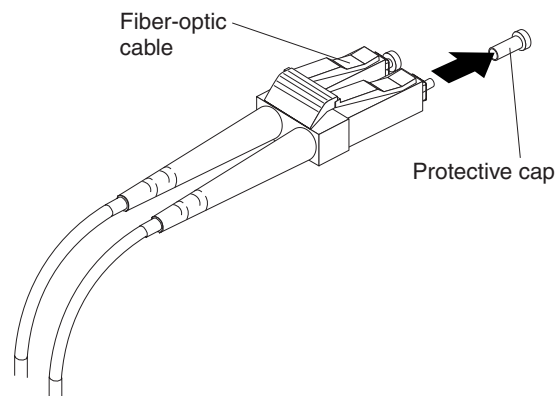

Figure 6. Removing the fiber-optic cable protective caps
3. Remove the two protective caps from one end of the LC-LC cable as shown in Figure 6. Save the protective caps for future use.
- Remove the two protective caps from the other end of the LC-LC cable, as shown in Figure 6 on page 5. Save the protective cap for future use.